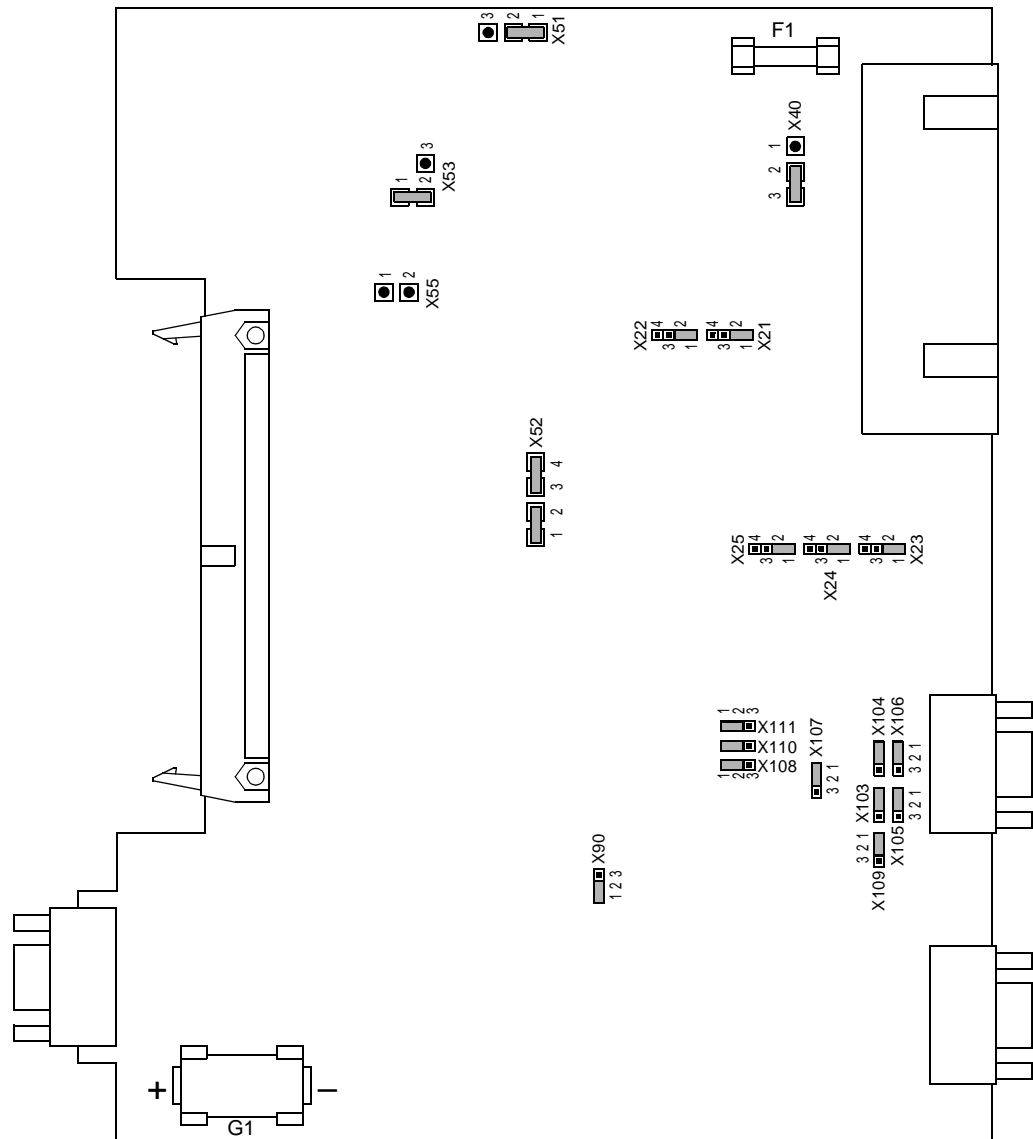

Figure 8-12 Processor printed circuit board C-CPU-2 with jumper settings required for the module configuration
- ☐ Disconnect the ribbon cables between the C-CPU-2 unit (❶) and the input/output printed circuit boards (depending on the version❷ to ❸).
- ☐ Check the jumpers according to Figures 8-12 to 8-18 and the following information
The layout of the printed circuit board of the processor printed circuit board C-CPU-2 is illustrated in Figure 8-12.